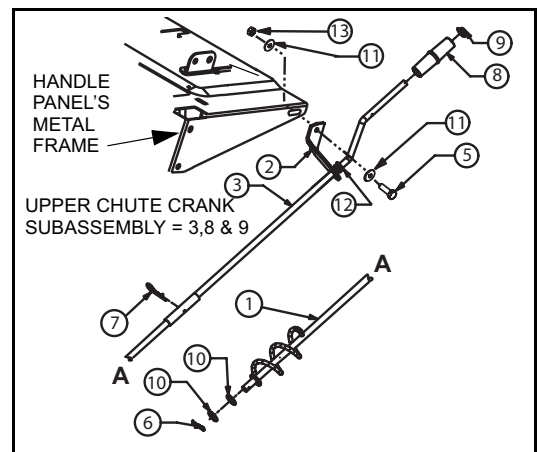

FIGURE 4
9. Attach Chute Crank Bracket (Upper) with Bushing subassembly to the left rear slotted hole in the Handle Panel's metal frame with one (1) Hex Head Screw, Item 5, two (2) Bell Washers, Item 11 and one (1) Hex Nut, Item 13. See Figure 4. Tighten finger tight only.
12. Place one (1) Flat Washer, Item 10, on the spiral end of the Lower Chute Crank. Place the Lower Chute crank into the Plastic Bushing, Item 12, in the Chute crank Bracket, Item 4, attached to the Chute Adapter.